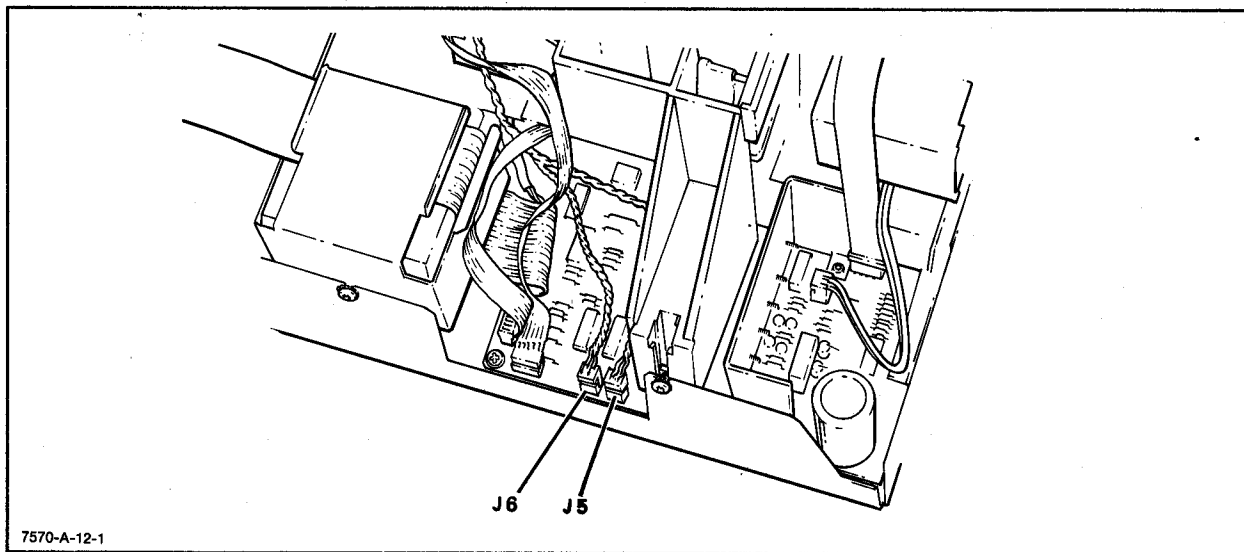

Figure 8-8. PCA Cable Connections
- a. Turn the plotter OFF (O).
- d. Disconnect the Paper- and Pen-axis motor cable assemblies from the main PCA, Jacks J5 and J6. See Figure 8-8.